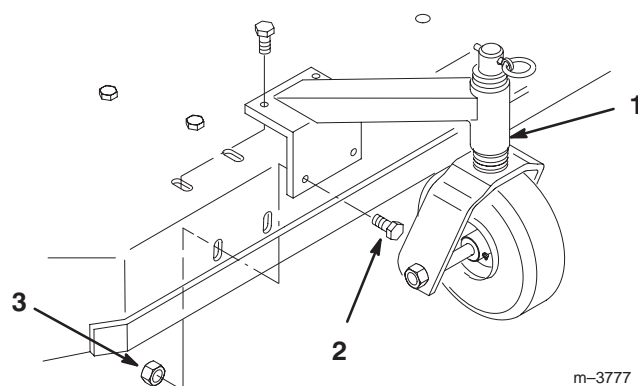

Figure 1
1. Align castors with holes on top and front of mower and insert (8) 3/8-16 x 19 mm (3/4") bolts through mower. Secure with (8) 3/8-16 flange nuts below mower (Fig. 1).